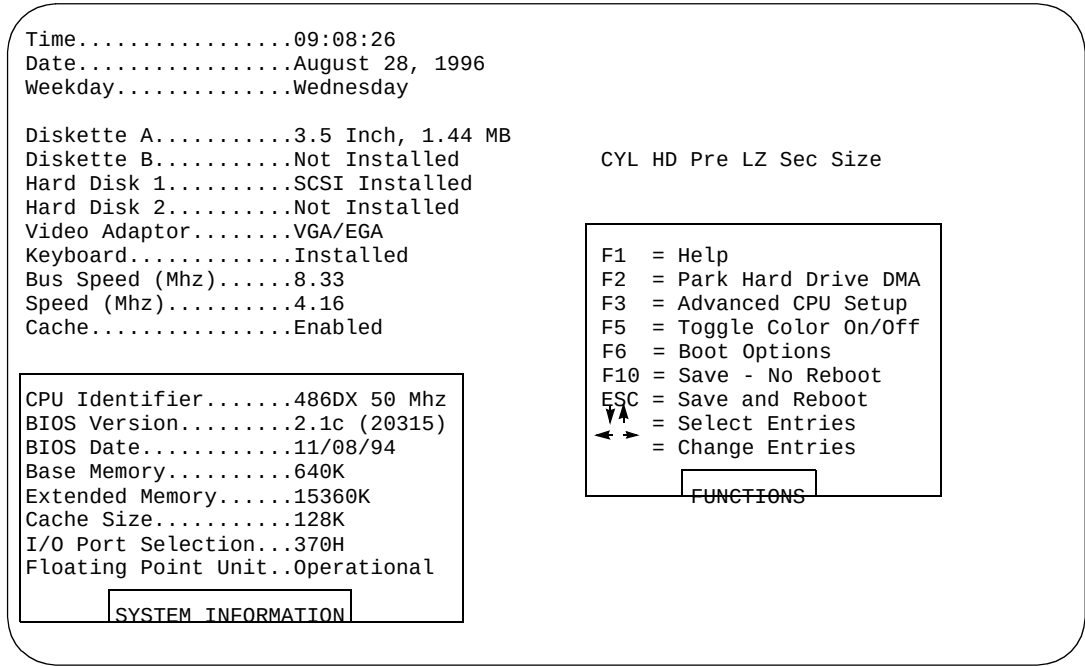

Figure 5-80. CMOS Basic Options Set-Up Screen
After the system has completed POST, it displays the CMOS Basic Options Set-Up screen (Figure 5-80).
- 1. Starting at the CMOS Basic Options Set-up screen (Figure 5-80), press F6
The system displays the CMOS Basic Options Set-up screen (Figure 5-80).
- 1. Starting at the CMOS Basic Options Set-up screen (Figure 5-80), press F3.